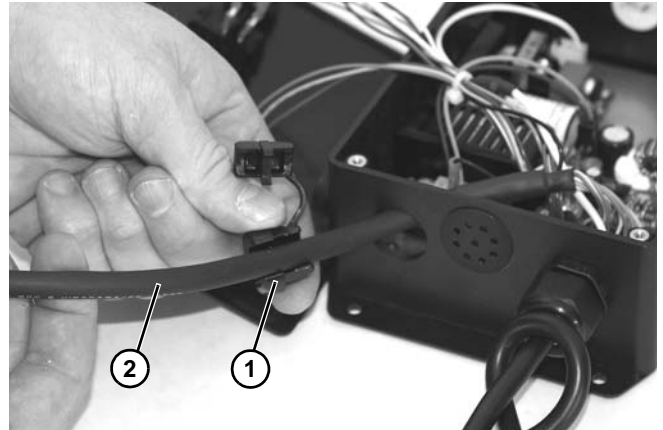

Figure 9
4. Remove cord retainer (Figure 9, item 1) from cord (Figure 9, item 2).